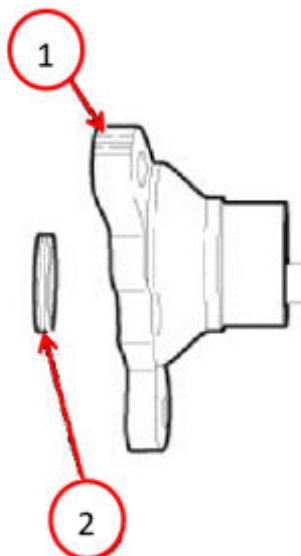

Fig. 54
78. For 2WD vehicles, remove and **DISCARD** the seal from the output flange and replace it with a **NEW** seal Fig. 54.